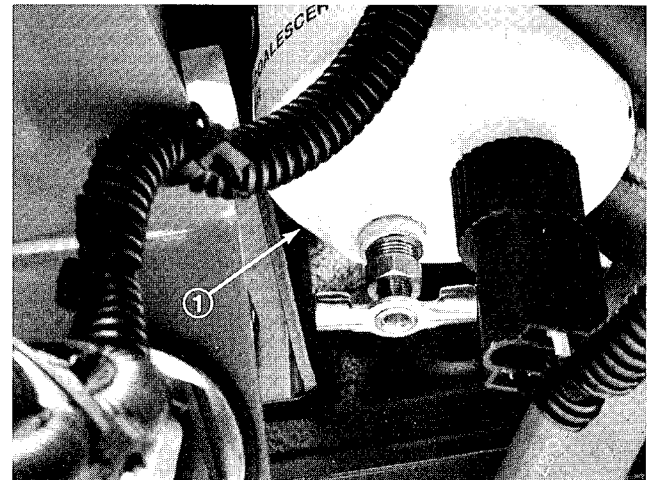

Figure 23
2. At lower left side of engine, loosen air bleed screw at top of fuel filter/water separator (Fig. 23).